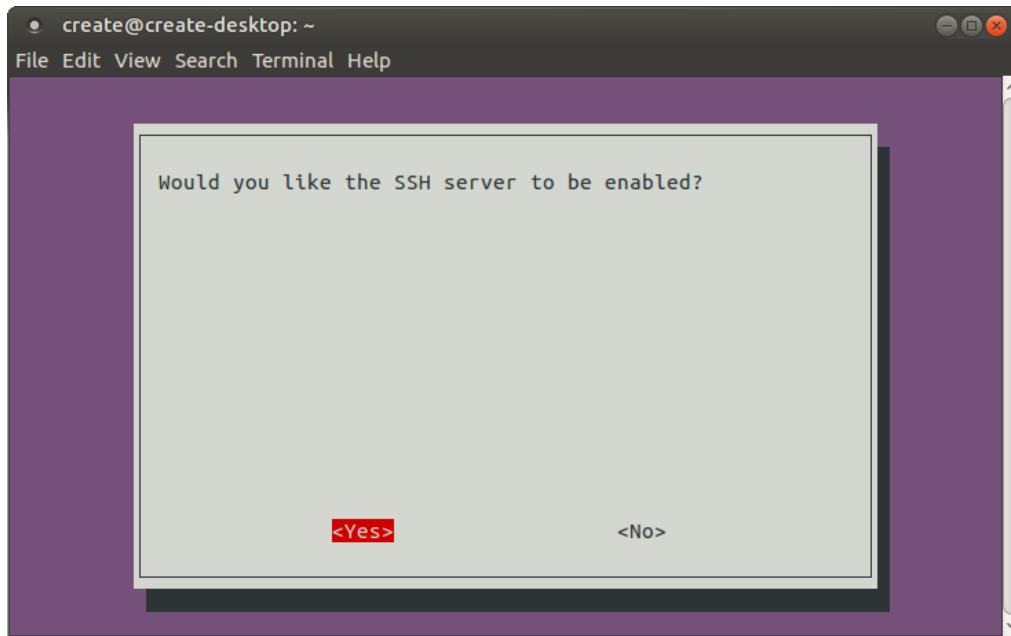

Figure 5: Enable SSH Server
- f. This shows the screen in Figure 5. Use the arrow keys to navigate to <Yes> and press Enter